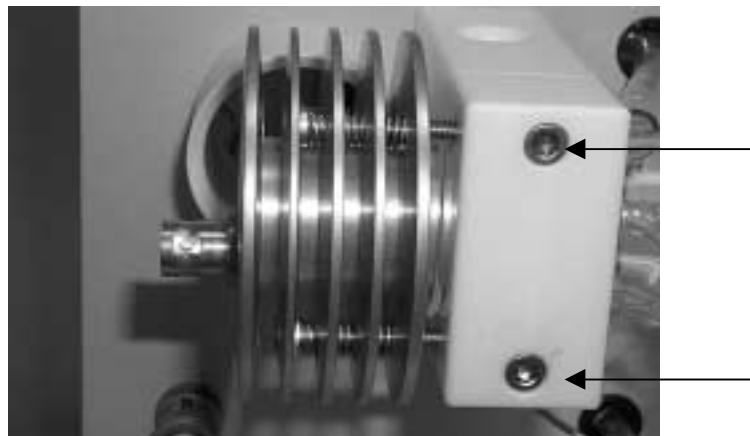

Figure 8
8. Remove the two screws from the Aerosol Chamber Clamp. See Fig. 8.